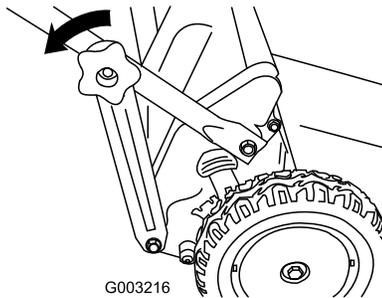

Figure 15
1. Remove the lower handle knobs that attach the handle brackets to the lower handle ends (Figure 15).